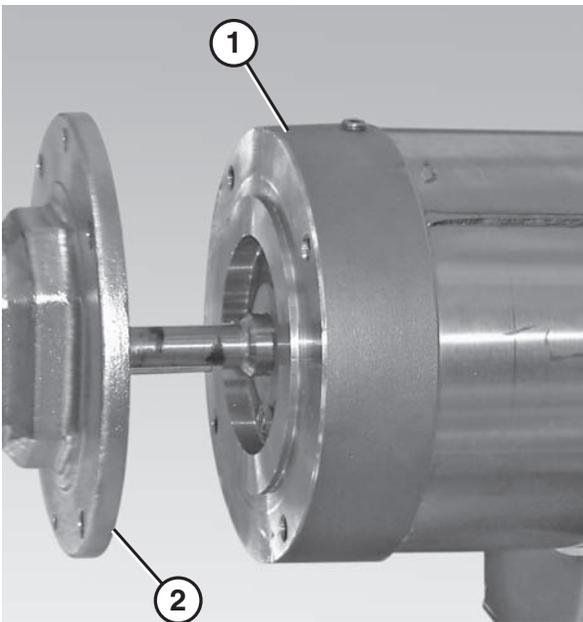

Figure 62
7. Disconnect the motor (**Figure 62, item 1**) from the gear reducer (**Figure 62, item 2**).